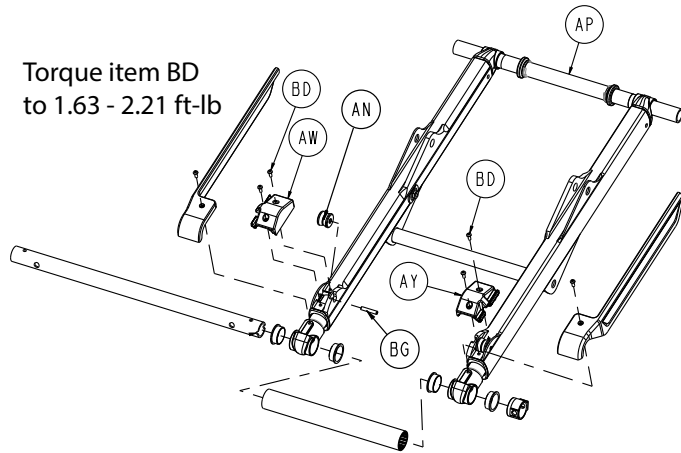

Figure 66 – Lift assembly components
8. Using a T25 Torx driver, remove the two button head cap screws (BD) that secure the roller cover (AW, AY) to the outer lift A-frame weldment (AP) (Figure 66). Save the screws.
12. Using a small punch, push the dowel pin (BG) through the external roller assembly (AN) (Figure 66). Remove and save the dowel pin and external roller assembly.